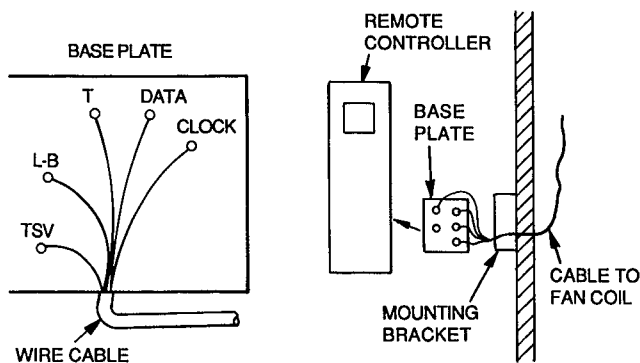

Fig. 15 — Wired Remote Controller Installation
2. Route line power leads (see Fig. 13) from indoor disconnect to the fan coil unit. Place wire through hole on the control box (Fig. 14). Connect wire (Fig. 15) to high voltage terminal board (TB-1) and ground screw. Be sure to leave some slack wire so that the control box can swing full open for access to the drain and piping connections. When routing the wire in the unit, use care to keep the wire away from refrigerant and condensate piping and any sharp edges.
4. Plug the base plate into the back of the controller and slide the controller into the mounting bracket (see Fig. 15).
5. Attach the other end of the cable to the control plug from the board in the fan coil control box (see Fig. 15).